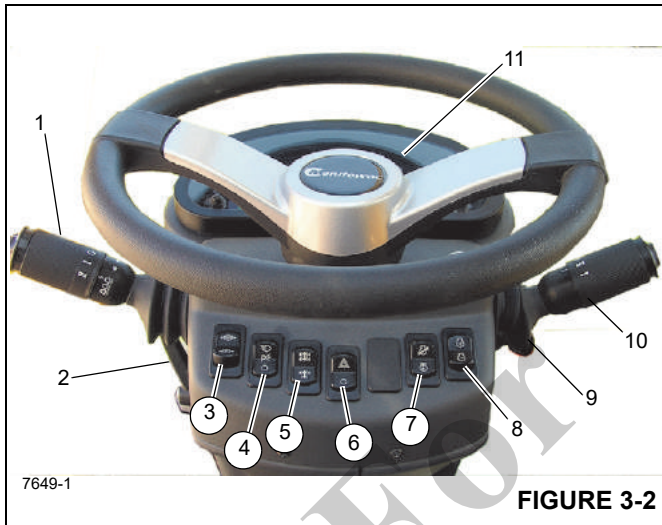

Figure 3-2 Item Numbers
The steering column assembly in Figure 3-2 is a pedestal style tilt and telescoping steering column. It has the ability to tilt forward 30° or be raised vertically approximately 60 mm (2.5 in). It also includes the ignition switch and the CANbus gauge display (11) (Figure 3-2).
The Turn Signal Lever and Windshield Wiper/Washer Controls (1) (Figure 3-2) are located on the left side of the steering column. Pushing the turn signal lever down causes the left front and left rear turn signals to flash. Pushing the turn signal lever up causes the right front and right rear turn signals to flash.
The steering control column can be rotated forward approximately 30° and raised approximately 60 mm (2.5 in). Move the control lever (2) (Figure 3-2) down to lock the steering column in place; rotating the lever up releases the steering column for the required adjustments.
The Park Brake Control Switch (3) (Figure 3-2) is located on the front of the steering column. This two-position rocker switch (ON/OFF) is used to apply and release the parking brake on the drive line. The red Park Brake Indicator light on the steering column is illuminated when the pressure switch in the brake release system is activated and the brake is applied.
The Headlights Switch (4) (Figure 3-2) is located on the front of the steering column. This three-position rocker switch (OFF/PARK/HEADLIGHT) controls operation of the instrument lights, switch LED's, and the marker lights on the front, rear, and side of the crane. When the switch is in the ON position, the steering column and switch lights are illuminated.
The Drive Axle Selector Switch (5) (Figure 3-2) is located on the front of the steering column. This two-position rocker switch is labeled two-wheel drive (high range) and four-wheel drive (low range). The switch controls a solenoid valve (energized for two-wheel drive) that operates the speed range and axle disconnect cylinders on the transmission. When the switch is in the four-wheel drive position, the Drive Axle Indicator light on the steering column is illuminated.
The Hazard Lights Switch (6) (Figure 3-2) is located on the front of the steering column. The switch is a two-position rocker switch (ON/OFF) that causes the four turn signal lights to flash at the same time when the switch is positioned to ON. When the switch is positioned to ON, the turn signal indicator lights on the steering column will flash.
The Test Mode Switch (7) (Figure 3-2) is used when servicing the engine’s electronic control system. It is a two position on/off rocker switch used to activate the diagnostic mode (fault codes). The ignition switch must be ON but the engine not running. When the Test Mode Switch is ON, and is used in conjunction with the Idle/Diagnostic Mode Switch, access will be gained to scroll up or down through the fault codes.
The Idle/Diagnostic Mode Switch (8) (Figure 3-2) is a three position (+/-) momentary rocker switch that provides idle-control inputs that increases and decreases the engine idle (when the Test Mode Switch is in the OFF position) or scrolls up or down through the diagnostic mode fault codes when the test mode switch is in the ON position with the engine not running.
The Transmission Shift Lever (10) (Figure 3-2) is located on the right side of the steering column. The control lever operates the transmission selector valve electrically. Positioning the lever up actuates forward and positioning the lever down actuates reverse. When the lever is in neutral, it rests in a detent. To move the lever up or down, pull back on the lever first. To shift the transmission to first, second, or third gear, rotate the knob to 1, 2, or 3.